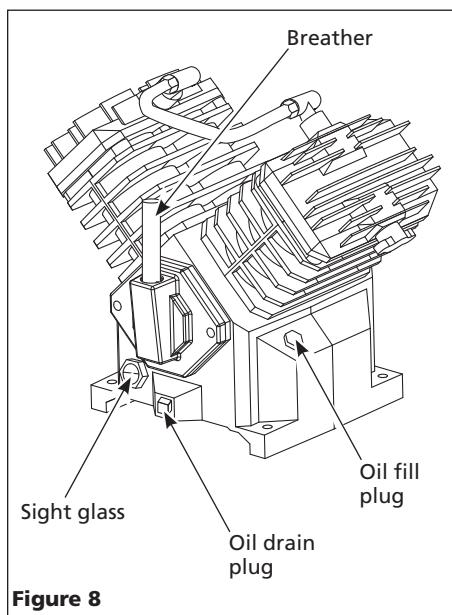
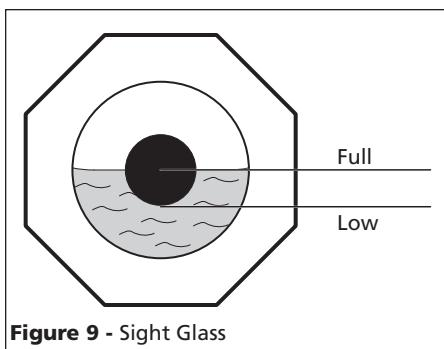

Figure 8
Figure 9 - Sight Glass
Additives in regular motor oil can cause valve deposits and reduce pump life. For maximum pump life, drain and replace oil after the first hour of run time. This pump has an oil sight glass as shown in Figure 8. Oil level can be monitored and maintained as shown in Figure 9.
1. Remove cap from oil fill opening. Fill pump to the proper oil level (see Figure 9). Install breather (found in parts bag with this manual or hanging from cylinder).
- c. Remove oil drain plug (See Figures 8). Allow oil to collect in pan.
- d. Replace drain plug, fill pump to full level (See Figures 8 and 9). Use Mobil 1 10W-30 synthetic motor oil.